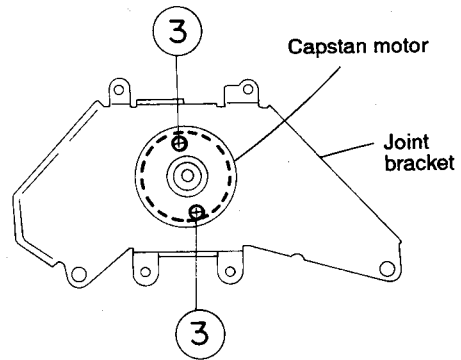

Fig.5-31
**■ Removing the Capstan Motor (See Figs. 5-31)**